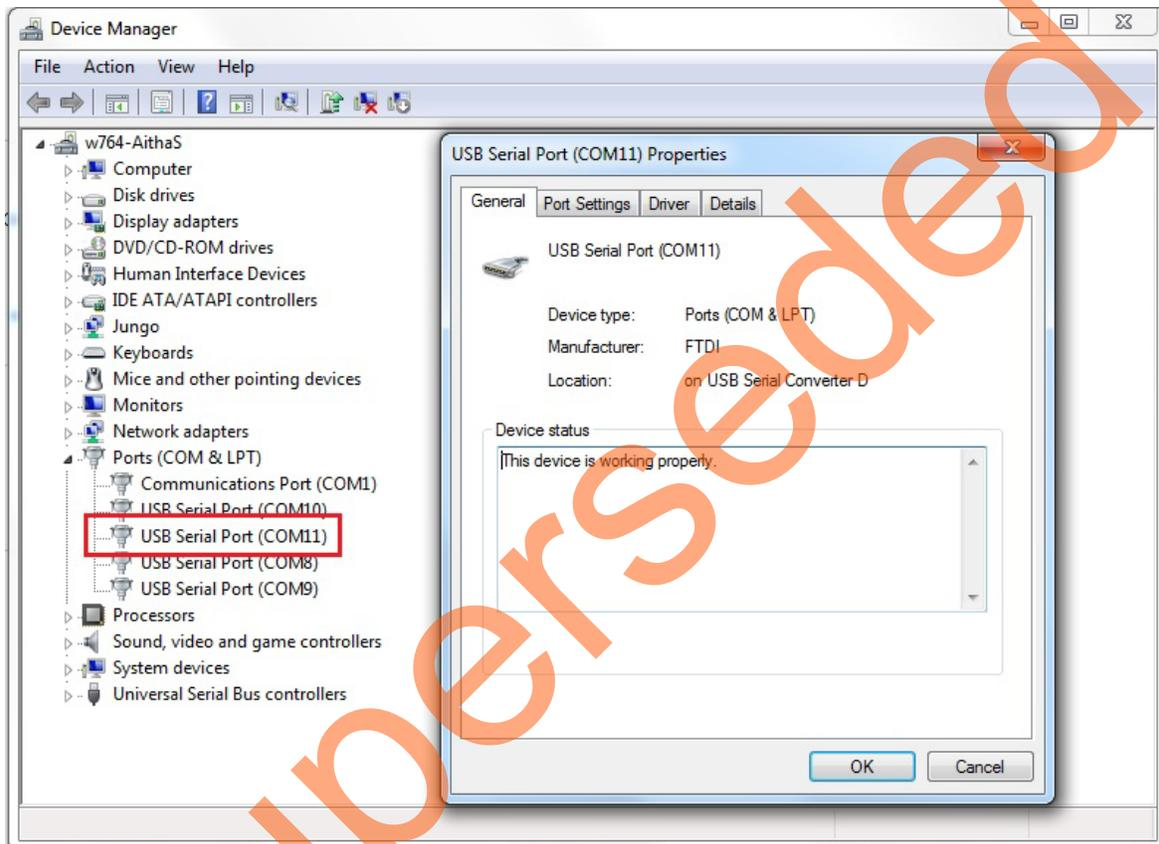
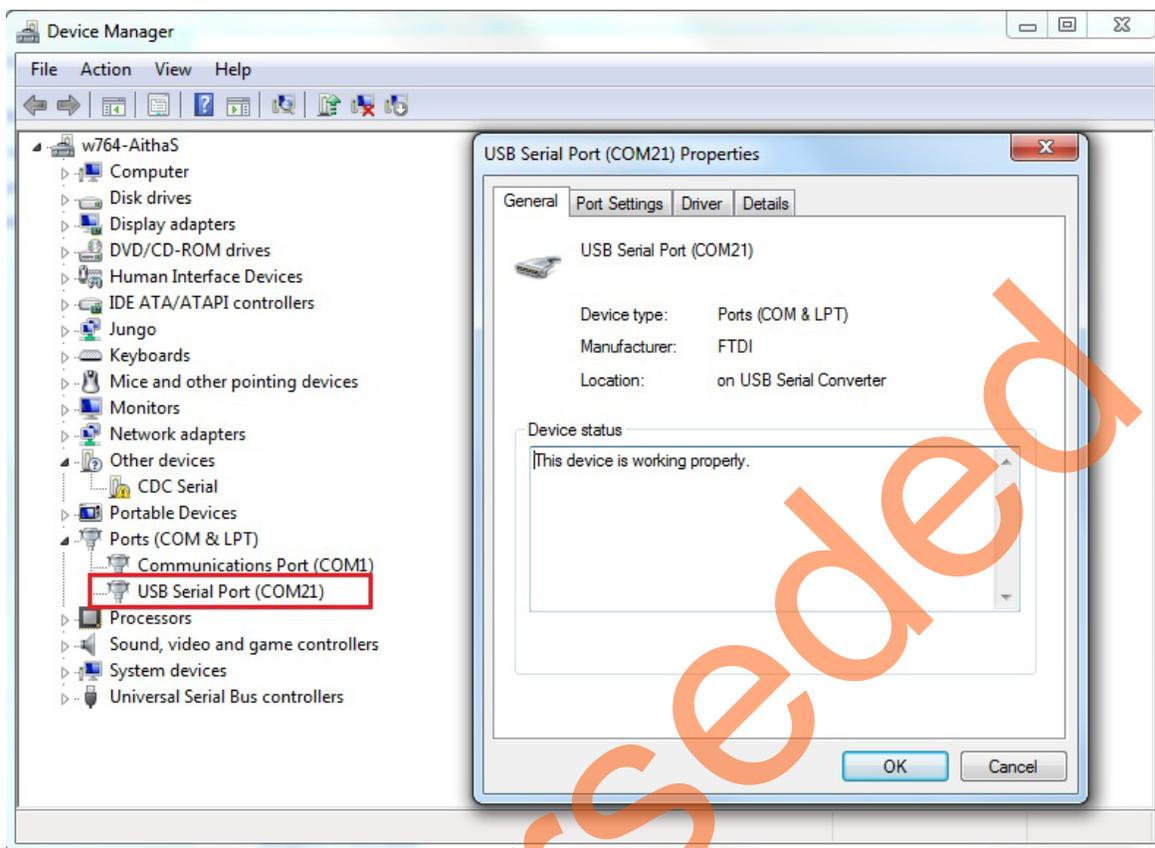

Figure 47 • SmartFusion2 Evaluation Kit USB Serial Port Drivers
Figure 48 • SmartFusion2 Starter Kit USB Serial Port Drivers
2. Connect the other end of the USB cable to the host PC. Make sure that the USB to UART bridge drivers are automatically detected, as shown in Figure 47 and Figure 48.